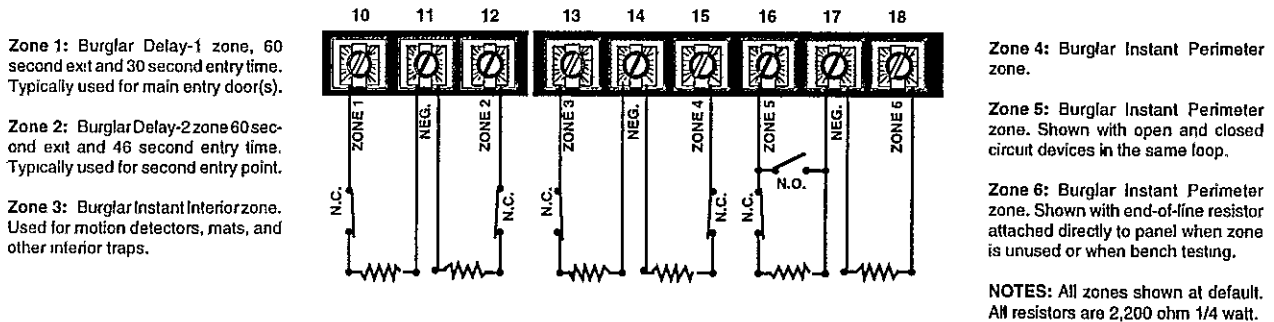

FIGURE 8
Figure 8 is an example of how each of the detection zones might be configured in a typical installation. For ease of explanation, zones 1-6 are shown in their factory default programming configuration. They may of course be re-programmed to suit the specific needs of each installation. At this point it is only necessary to decide what each zone will be used for and make the necessary connections. Programming the actual zone definitions and responses will be explained in Section 3.
3. Connect each zone wire to the appropriately labeled terminals as per Figure 8. Each zone has an input terminal and a common (negative) return. Please note that a negative terminal is shared by two zones and that all negatives are common to each other.